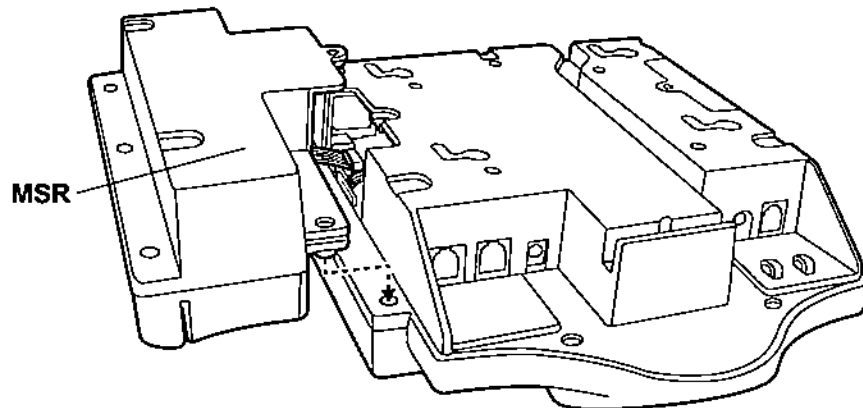

Figure 2-17. Positioning the MSR on the MK2000
2. Align the MSR mounting holes with the MK2000 location as shown in Figure 2-17. Position the MSR in its mounting location.